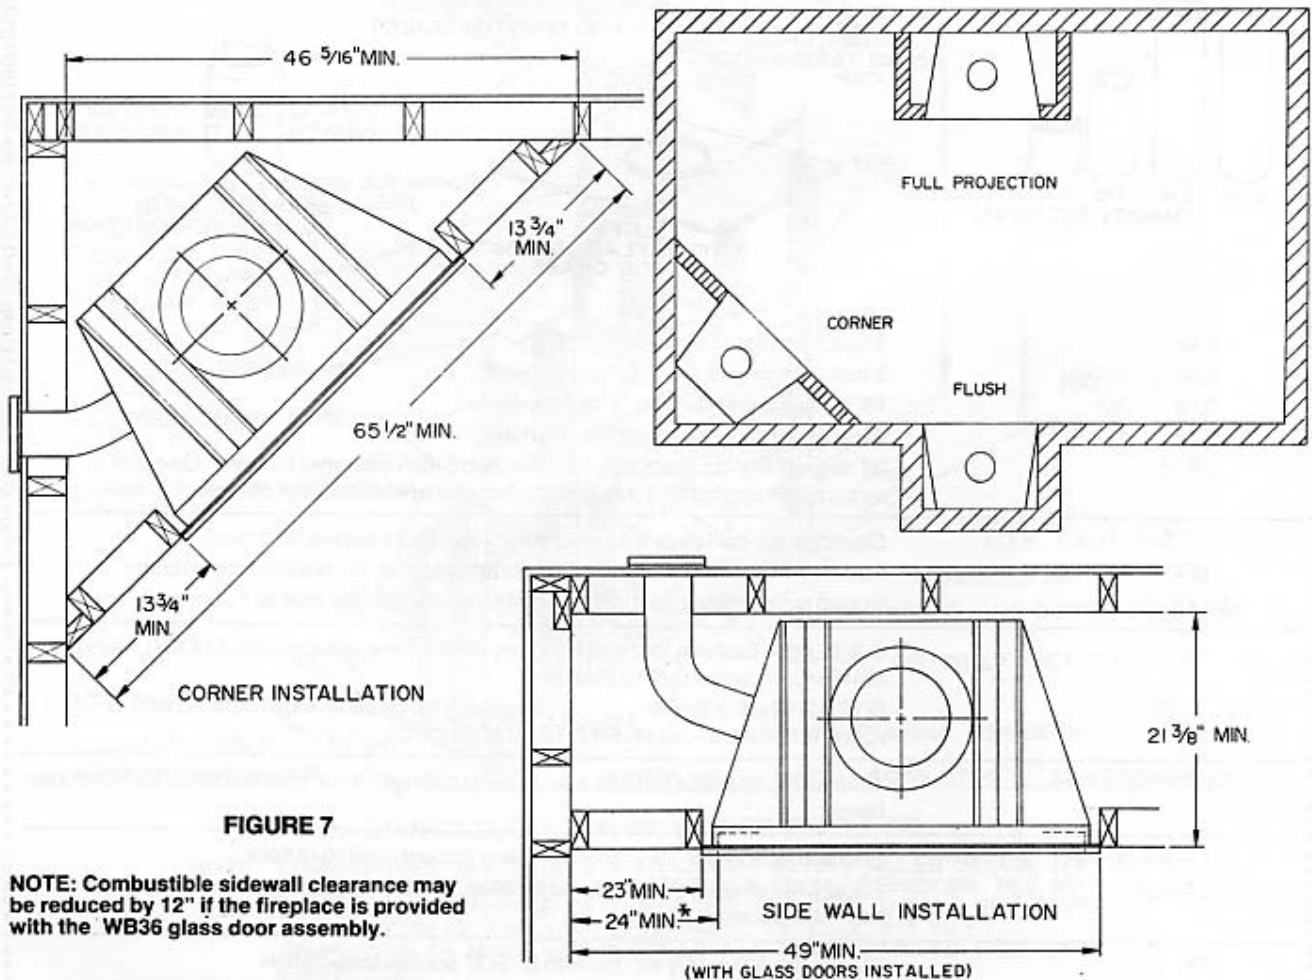

FIGURE 7
2. Be sure the location of the fireplace will provide the required clearances indicated by figures 7, 9, and 10 and the minimum chimney air space clearance to combustibles of two inches.